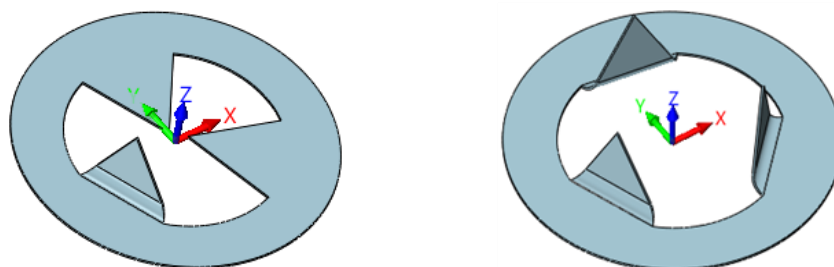

Figure 43 Fold by line Result
STEP 03 Fold result is shown in Figure 43., then do the same process for other parts.